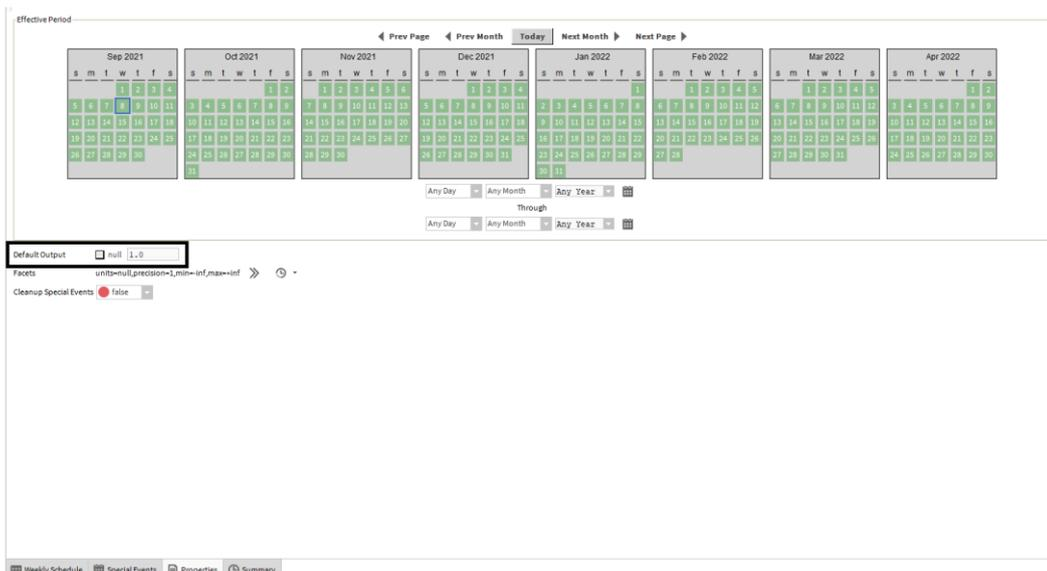

Figure TF2 – TARIFF SCHEDULE DEFAULT VALUE MUST BE NOT NULL AND HIGHER THAN ZERO
- The Numeric Schedule default output value must be set to not null. *Figure TF2*
7. Open Schedule and click to the Properties Tab (see Figure TF2).